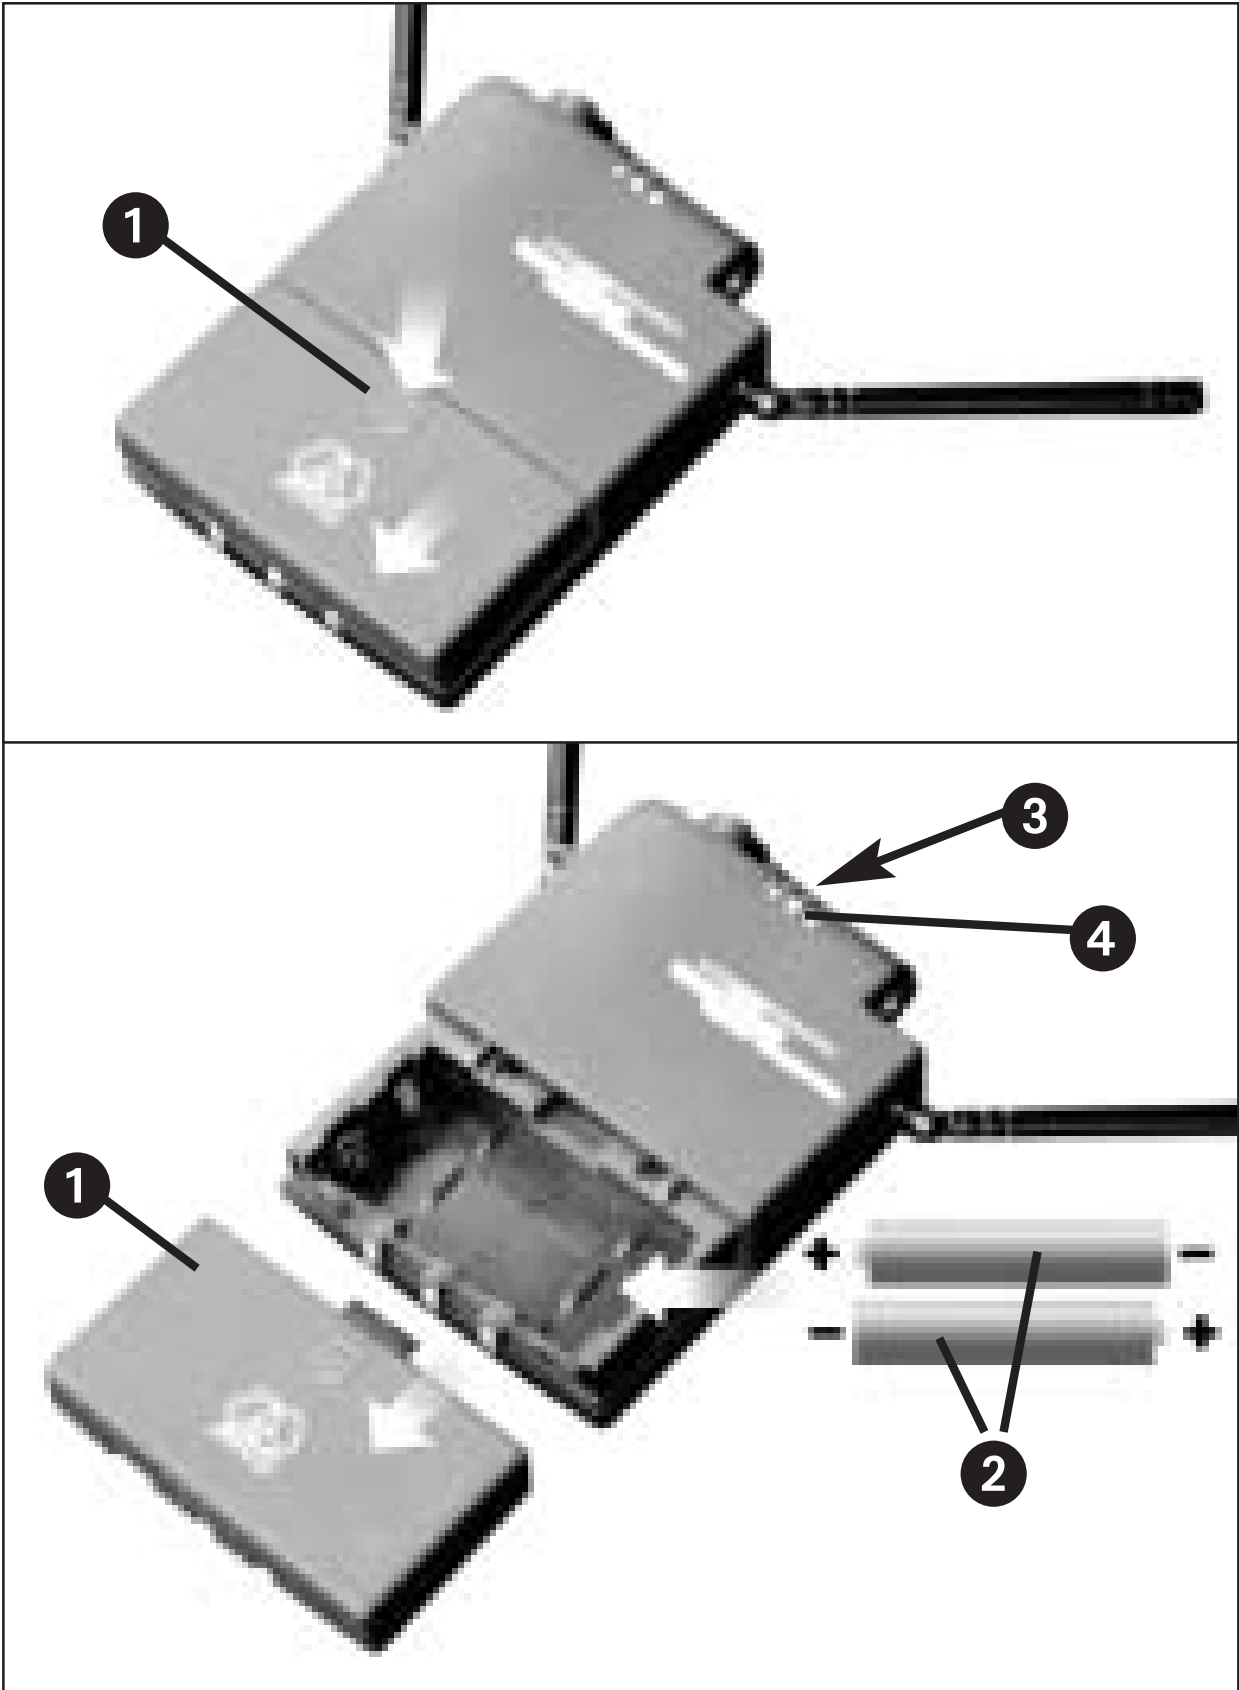

Fig. 3: Inserting batteries.
3.2 Inserting/Replacing and Testing Batteries (Fig. 3)
4. Insert the supplied or new batteries (2) into the battery compartment as shown in fig. 3.
5. Set the ON/ OFF switch (3) to ON.